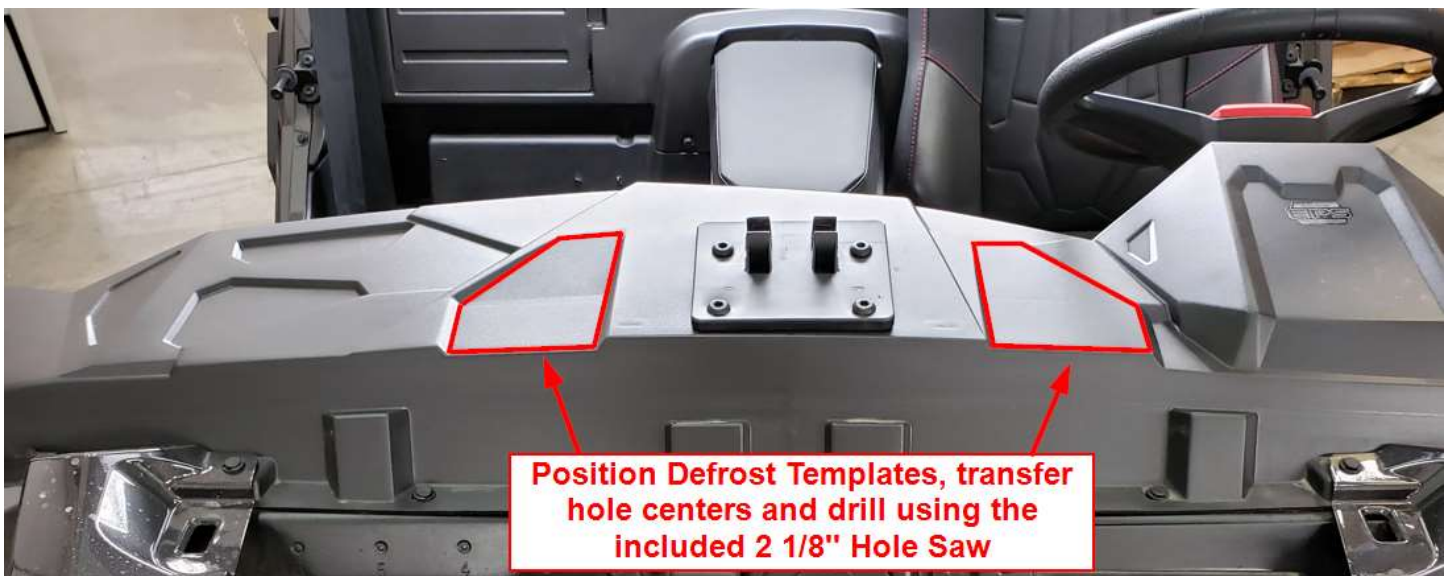
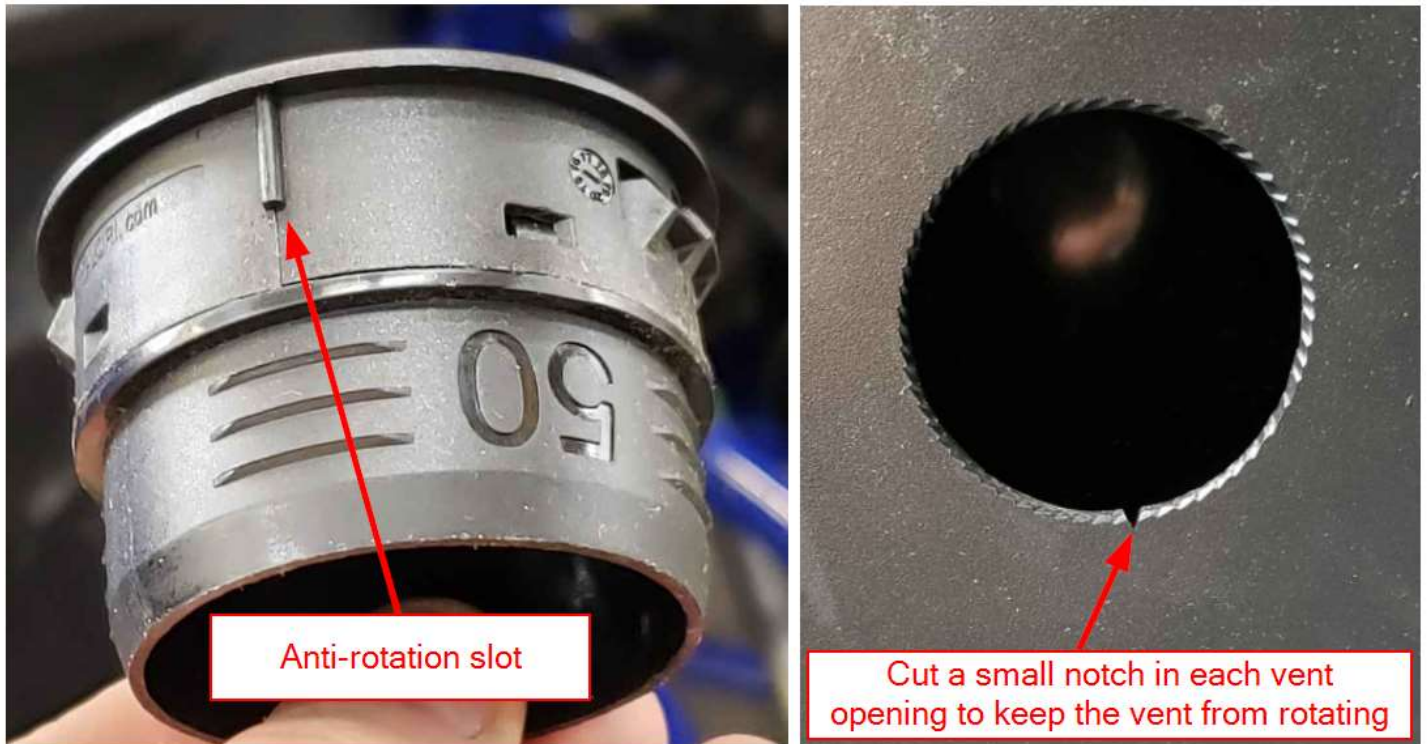

Figure 6
Figure 7
- a. Cut out the Defrost Vent Templates and position them on the top dash as shown in Figure 6. Mark the hole centers, **VERIFY NOTHING IS BEHIND THE LOCATION** and drill using the 2 1/8" Hole Saw included in the kit. Debur as necessary. **Installation Tip: After cutting the 2" vent holes, use a razor blade to cut a small "V" shaped notch anywhere along the hole. Each 2" Vent has an anti-rotation notch molded into it, fit the notch into the 'V' groove for easier install**, as shown in Figure 7.